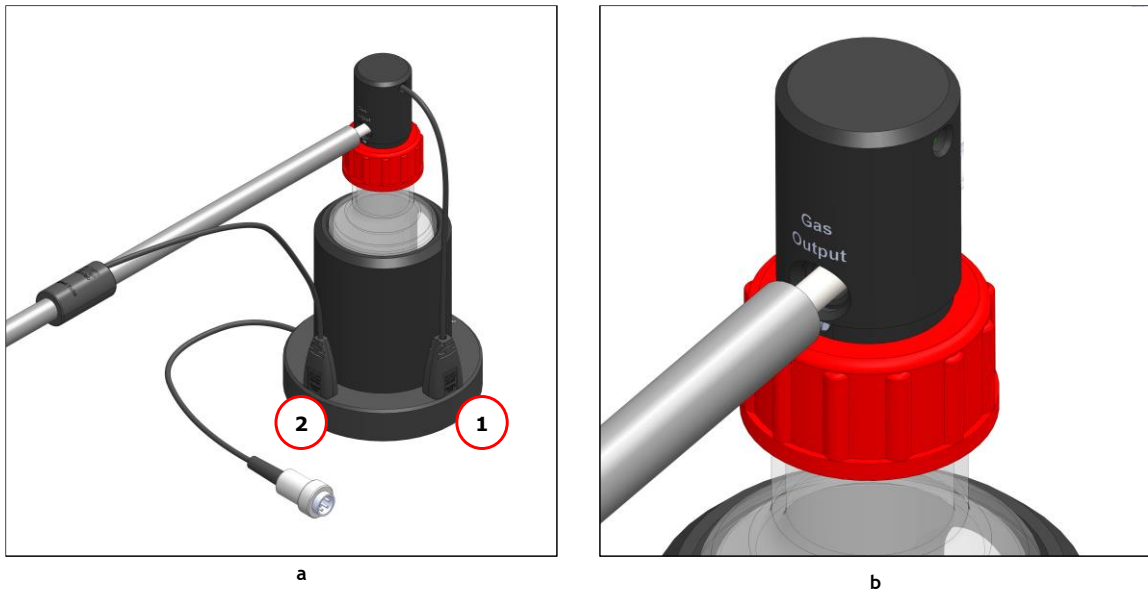

Figure 10. Humidity Module assembly (a - b).
3. Close the Humidity Bottle with the Humidity Sensor Lid and connect the cable of the Humidity Sensor Lid to the Heater Base. (1 in Figure 10 a) Connect the Heated and Insulated Tube to the port labeled “Gas Output” of Humidity Sensor Lid (see Figure 10 b) and connect its cable to the Heater Base (see 2 in Figure 10 a).